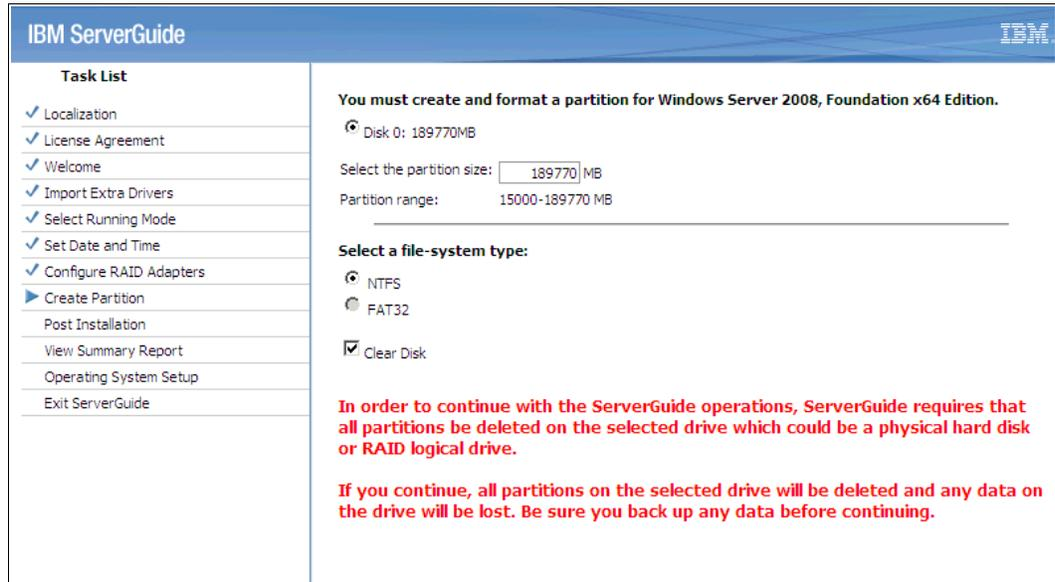

Figure 6-35 Selection for format and partition
13. You must now create and format a partition. Choose your selection and click **Next** to start the process, as shown in Figure 6-35.